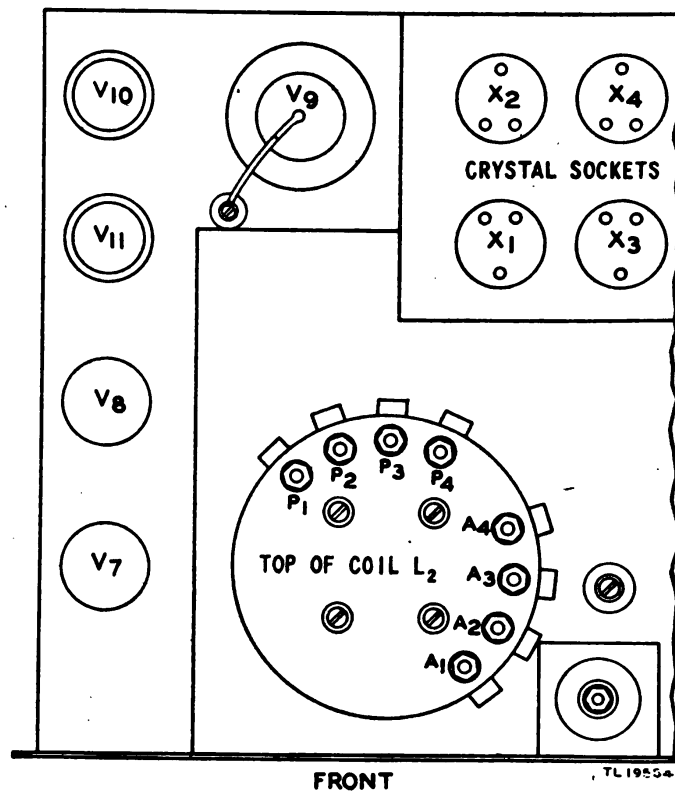

Figure 35. Transmitter presetting adjustments, showing r-f chassis—top view.
(2) Close the front panel.
(3) Connect the antenna to the set.
(4) Set CRYSTAL SELECTOR switch to channel 1.
(5) Plug in line cord and turn POWER ON-OFF switch to ON.
d. TUNING TO RESONANCE. (1) Open the front panel and set slider A1 at bottom of the tank coil L2 (fig. 35). The slider will engage in a notch when properly seated.
(2) Set slider P1 near the top of the tank coil. The setting is usually near the top of the coil for the lowest frequencies (1,700 kc) and about one-third to one-half way down the coil for the highest frequencies (2,750 kc).